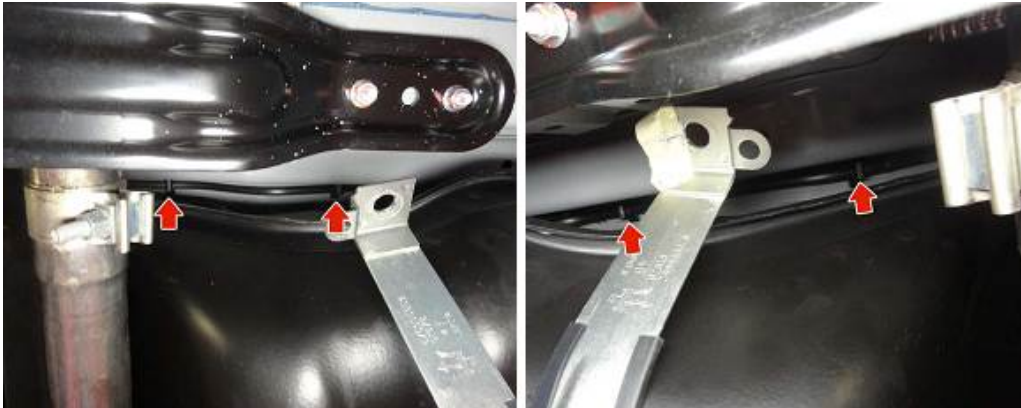

Fig.21
17. Lower the fuel tank just enough to unsnap the fuel delivery line from the 4 clamps located between the fuel tank and the chassis. (Fig.21)